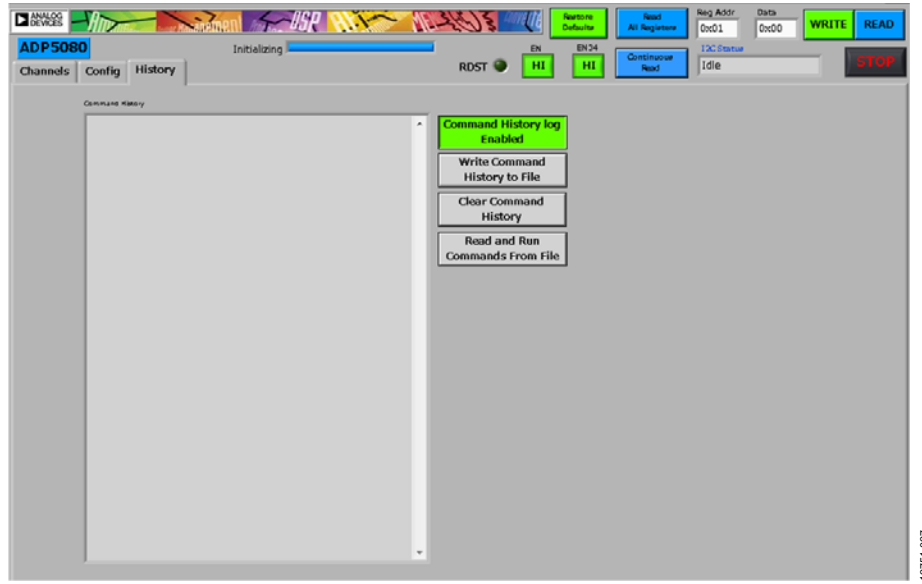

Figure 23. History Tab
The main window of the **ADP5080 DEMO GUI** program has a tabbed page structure that changes control of the device between the channels tab, the configuration tab, and the history tab (see Figure 21 to Figure 23). Use these tabulators shown in the main window of the **ADP5080 DEMO GUI** program to select the corresponding register sections.
- Control the EN signal of the device with the **EN** and **EN34** buttons (see Figure 21 to Figure 23).
- Select the **RDST** option to enable the RDST readback mode, which affects only those registers that use the RDST read protocol (see Figure 21 to Figure 23).
- To read data from a selected register, enter the register or hexadecimal address and click **READ**. The data value readback from the device displays in the **Data** box (see Figure 21 to Figure 23).
- Click **Continuous Read** to poll and read all registers continuously when updating data values of the corresponding display beside every register line (see Figure 21 to Figure 23).
- To stop the program from running, click **STOP** (see Figure 21 to Figure 23).